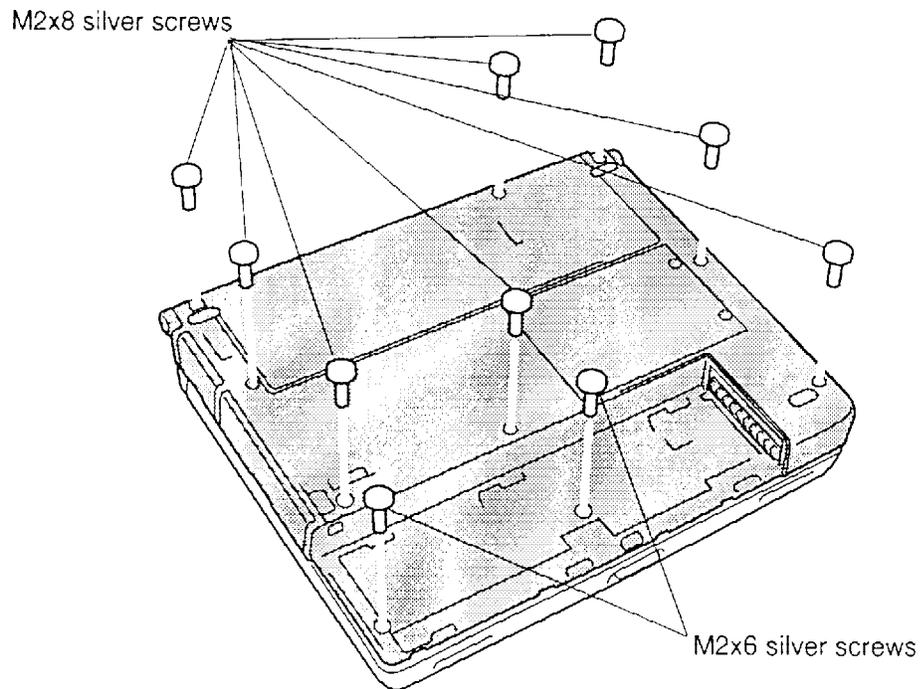

Figure 4-15 Removing the bottom cover screws
To remove the 610CT top cover, follow the steps below and refer to figures 4-15 through 4-17.
4. Remove **eight M2x8 silver screws** from the bottom of the computer and **two M2x6 screws** from the battery seating area. These screws secure the **top cover** to the bottom cover (figure 4-15).
To install the 610CT top cover, follow the steps below and refer to figures 4-15 to 4-17.